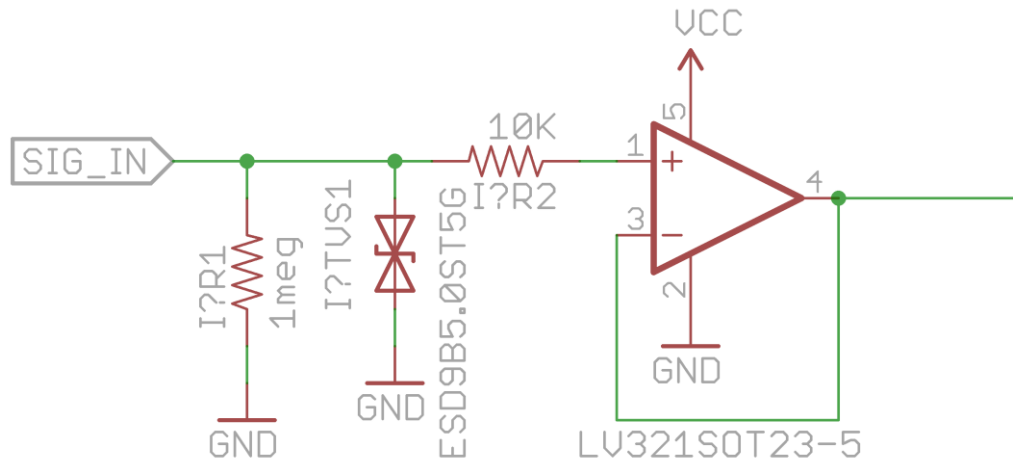

Figure 2: Example of an input stage, included in the Eagle templates
2.0.8 Inputs: Every bitSnap input must have a series 10K current limiting resistor on the SIG line (see Figure 2).
2.0.9 Inputs: Every bitSnap input must have a shunt TVS diode, or equivalent ESD countermeasures (see Figure 2).